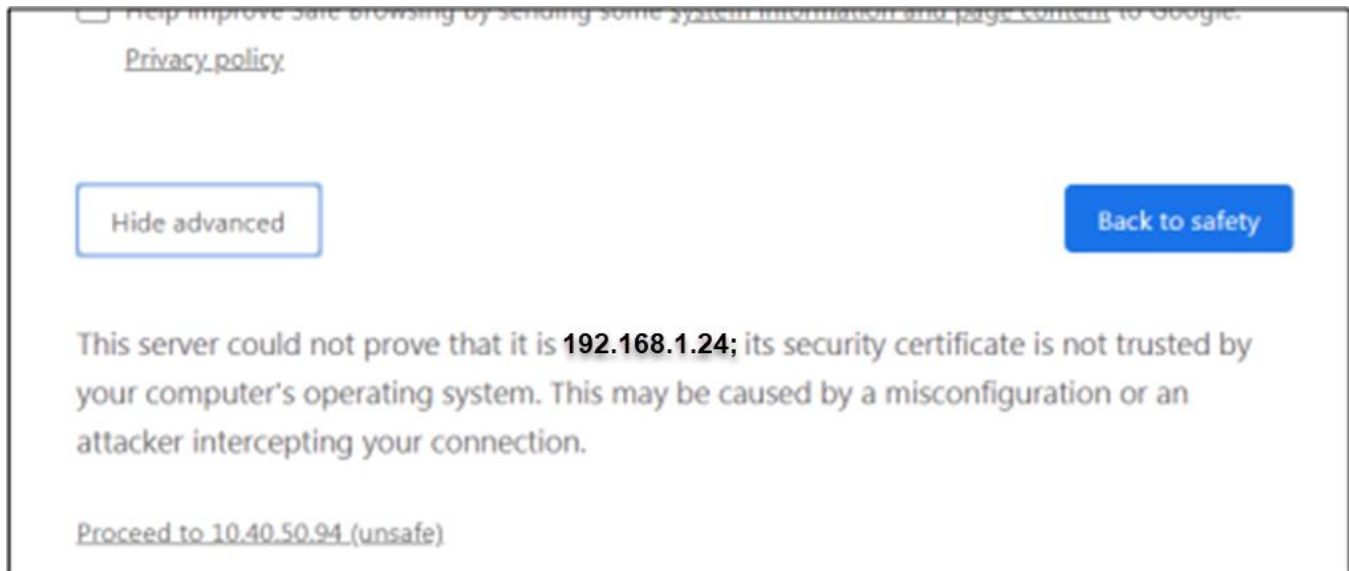

Figure 15 Advanced Window Expanded Text Warning
- Additional text will expand below the warning, click the underlined text “Proceed to 192.168.1.24 (unsafe)” as shown in figure 15.